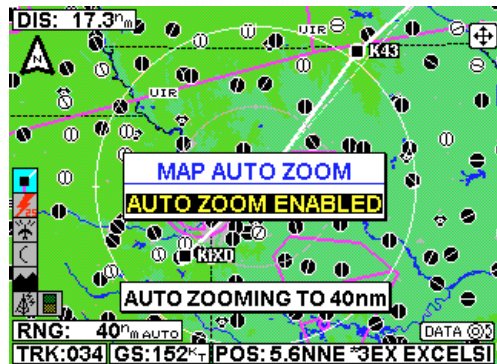

Figure 4
2. Pressing and holding either **RNG** Key for 2 seconds or more. While the **RNG** Key continues to be pressed, a hold-to-help box will be displayed as shown in Figure 4.
While Auto Zoom is enabled, **AUTO** is displayed in small black text to the right of the current range setting (see Figure 4).